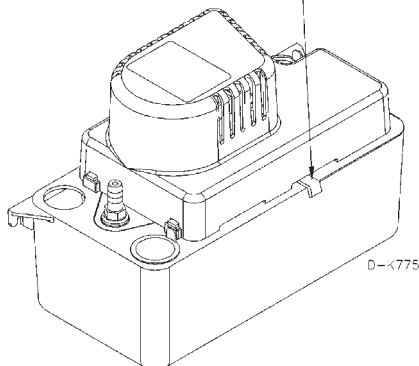

Figure 1.
- Carefully unpack the pump. Remove the cardboard packing from the motor cover air slots. Carefully slide the packing away from the pump. This packing is used to prevent switch movement during shipment (Fig. 1).